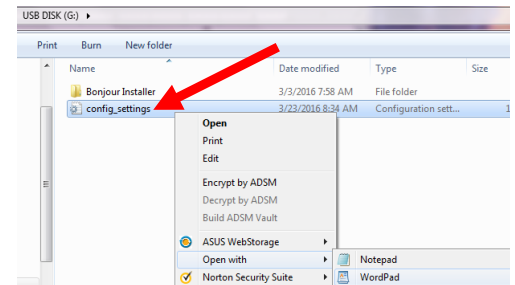
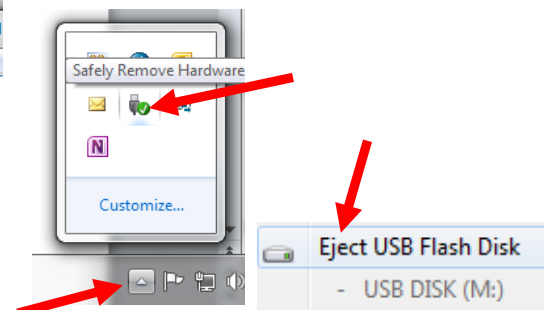

Figure 1
Figure 3
1. On the initial installation, the service tech may have to configure the parameters listed in the config_settings.ini file on the USB drive by opening the file with Notepad++ utility available in Microsoft PC based machine. Right click on the file and Open with Notepad to edit the file (see Figure 1).
5. Click on Eject USB Flash Disk (see Figure 3).
- Remove the JIB if applicable and locate the USB port. Refer to Figures 1 and 2 on the first page for locating the USB port. **NOTE: If a modem is already attached to the KCCM board, disconnect the modem and insert the USB directly into the KCCM board.**
- Remove the JIB if applicable and locate the USB port. Refer to Figures 1 and 2 on the first page for locating the USB port. **NOTE: If a modem is already attached to the KCCM board, disconnect the modem and insert the USB directly into the KCCM board otherwise insert into KCCM extension port (see Figures 3 and 4 on first page).**